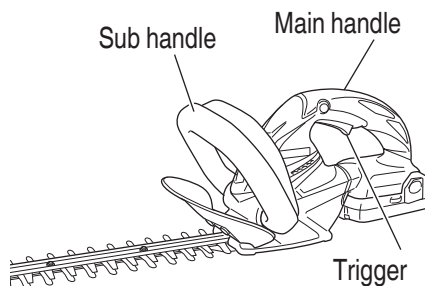

Fig. 4
1. **Switch ON (Fig. 4)**
2. **Switch OFF (Fig. 4)**